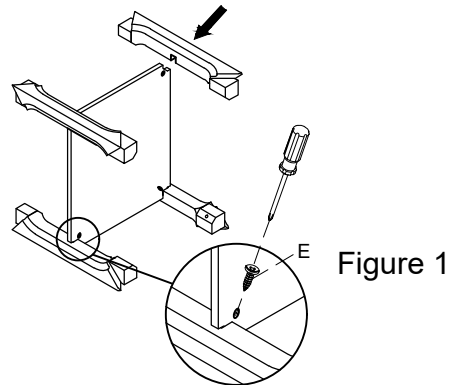

Figure 1
2. Attach the shelf to four legs using Screw (E). As shown in figure 1.